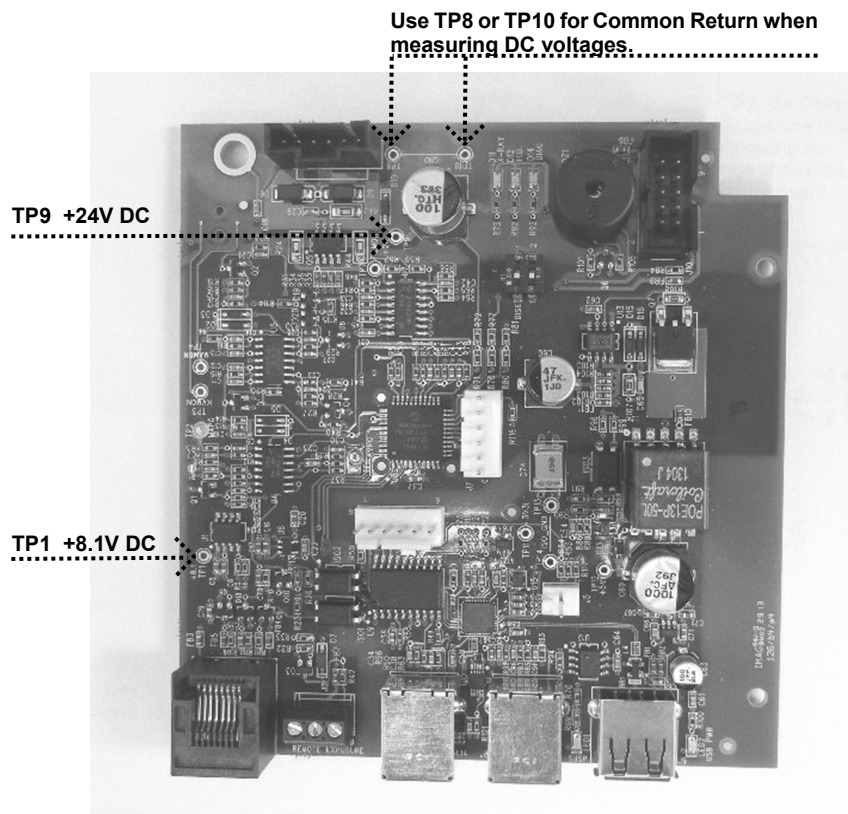
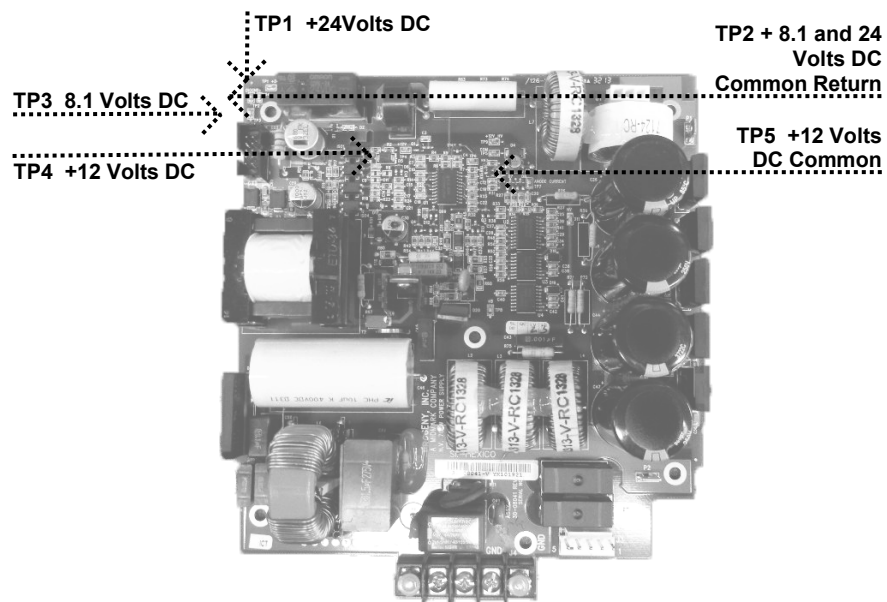

Figure 66
Figure 67
2. On the Power Supply Board, *Figure 67*, use TP2 as a common test point to check TP1 +24 volts DC and TP3 8.1 volts DC. Then, use TP5 as the common return to check TP4 for the presence of +12 volts DC, as shown in *Figure 66*. Should any of these voltages not be present, replace the Power Supply Board.